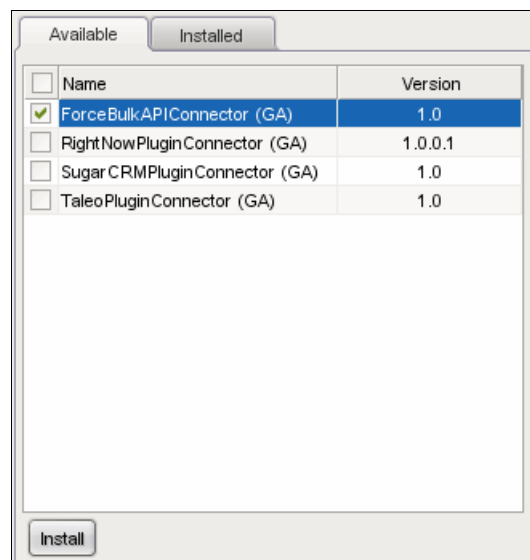

Figure 8-25 Available tab
- The Available tab, shown in Figure 8-25, lists all of the CDK Connectors that are available to install. To install a connector or connectors, select the required connector or connectors, and then click **Install**.